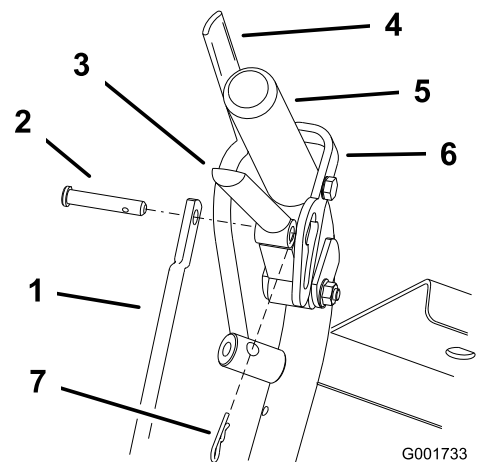

Figure 42
- Adjust the rod length by releasing the drive lever and removing the hairpin cotter pin and clevis pin. Rotate the rod in the rod fitting (Figure 42).
- Place the clevis pin into the drive lever (Figure 42).
- Install the hairpin cotter pin between the drive levers and the neutral locks and into the clevis pins (Figure 42).